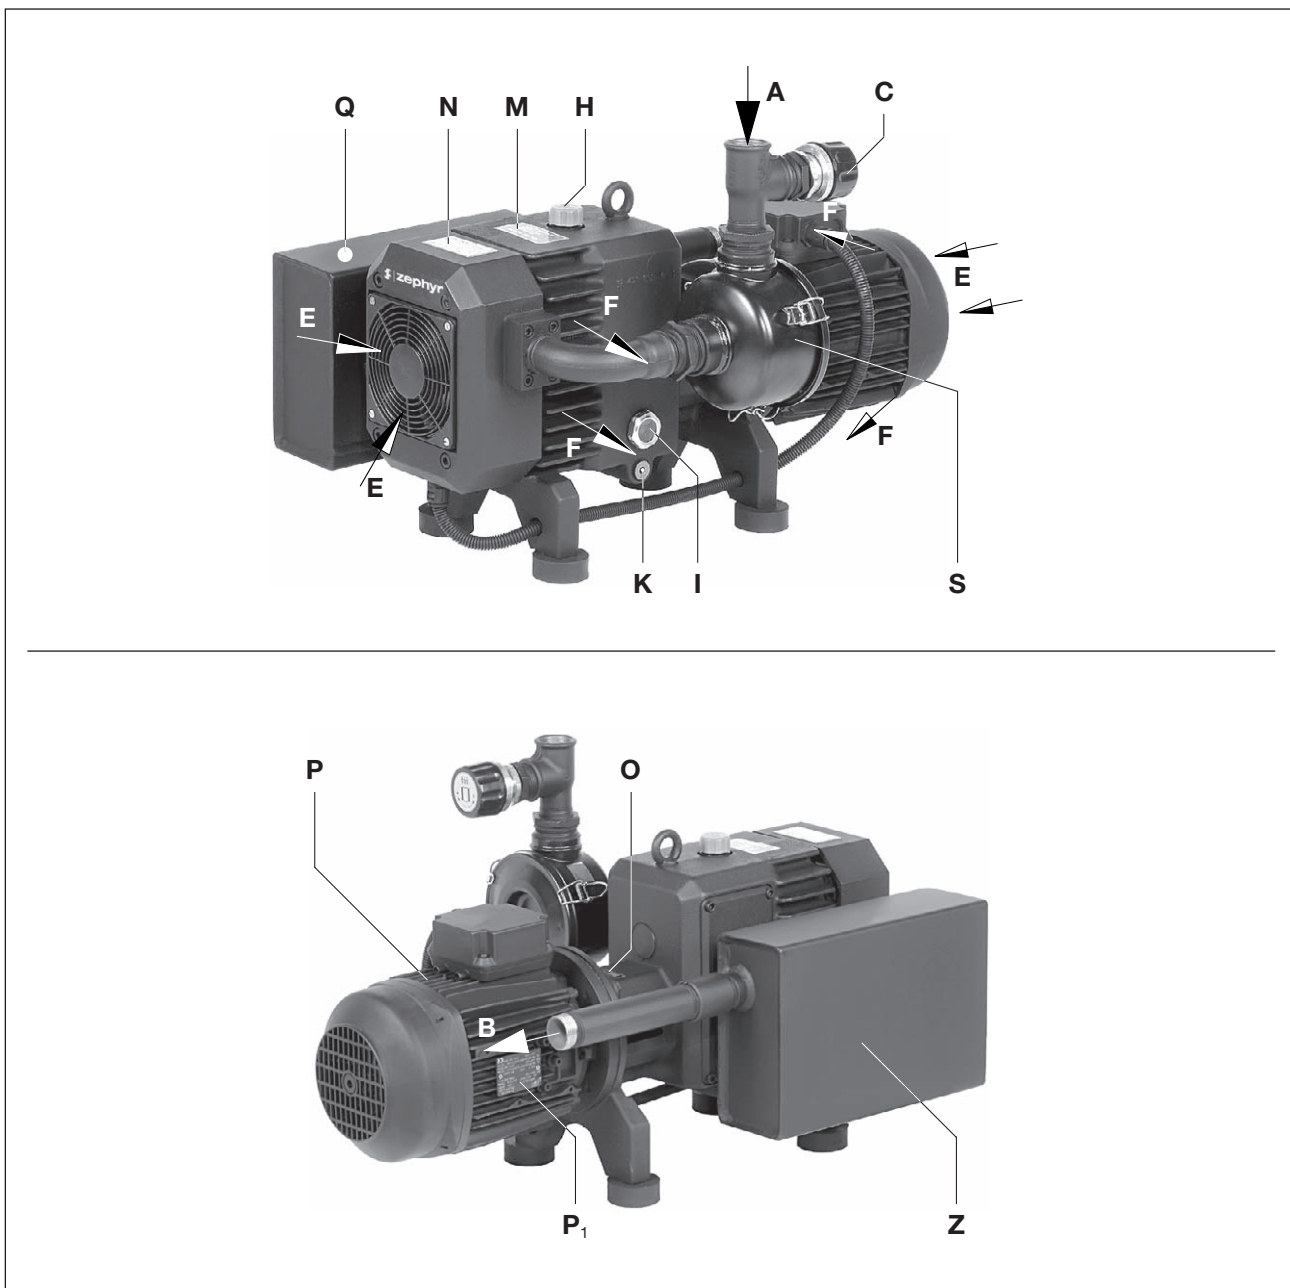
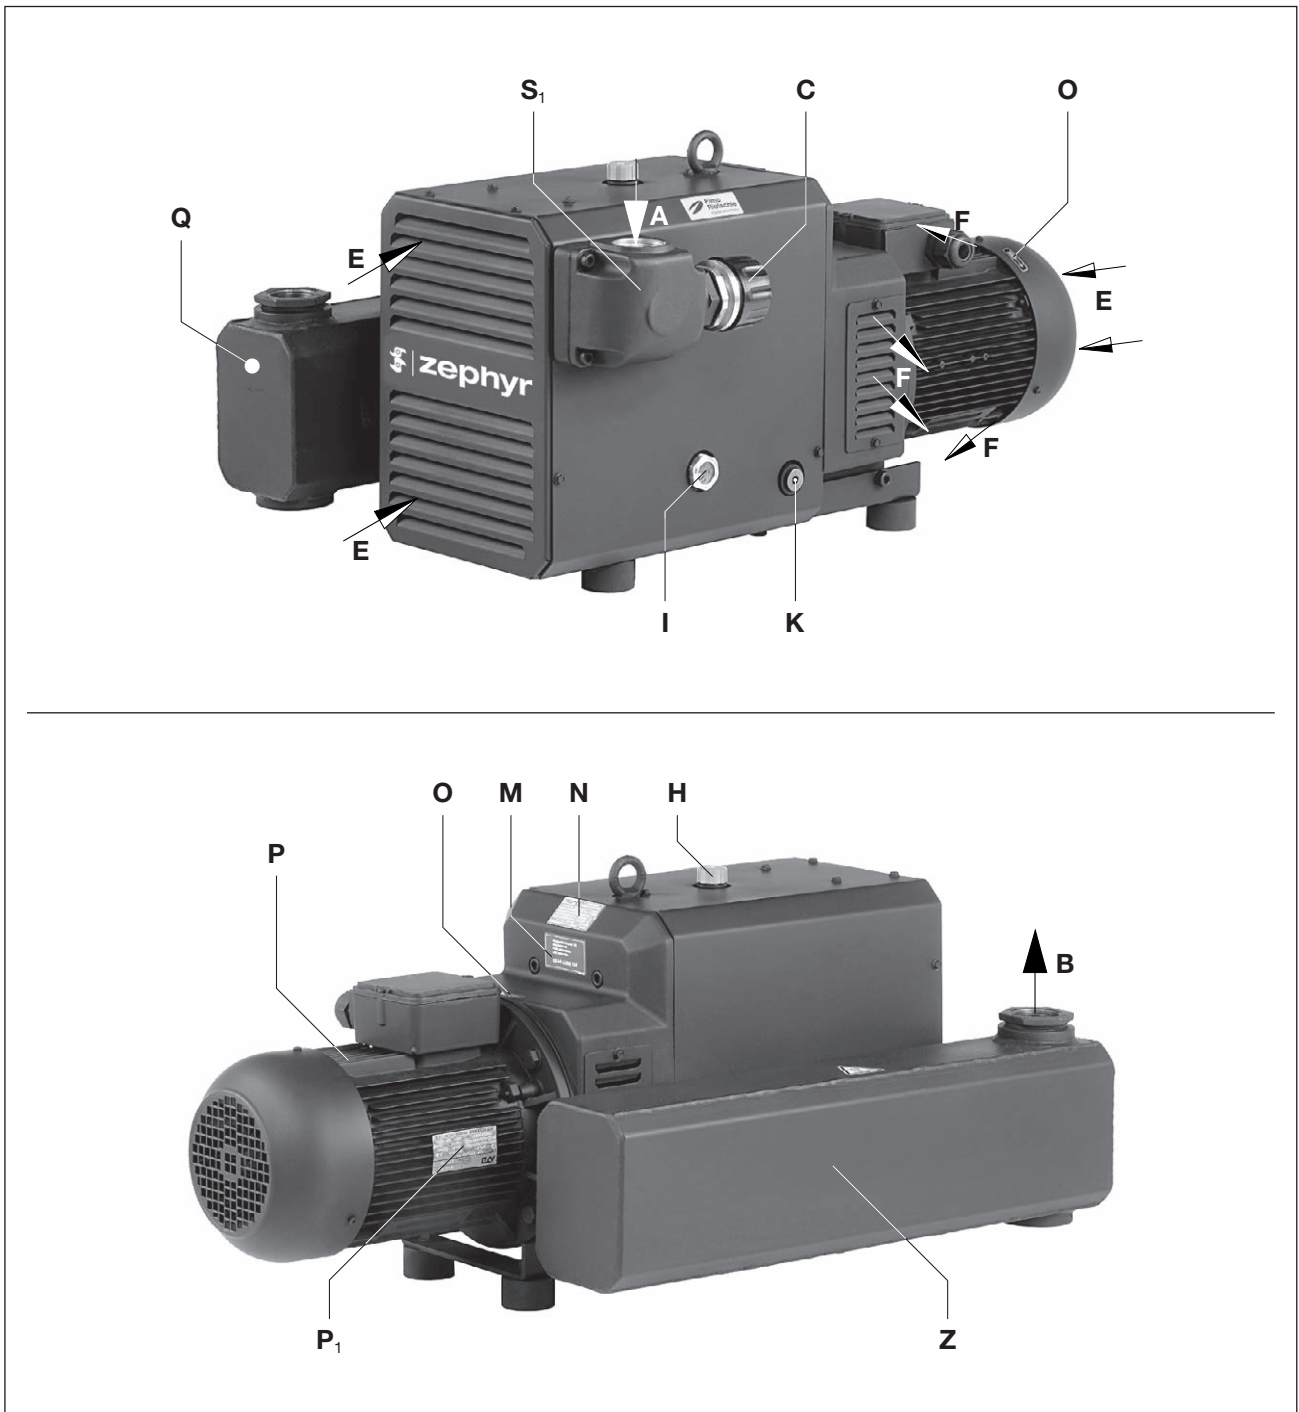

Fig. 2 Vacuum pump C-VLR 60
Fig. 3 Vacuum pump C-VLR 150
In order to dissipate compression heat, the cooling air is sucked through between the machine and the hood using drum fan that sucks in the fresh cooling air (Fig. 3/E) and discharges the heated air out of the cooling air outlet (Fig. 3/F). The ZEPHYR VLR is driven by standard flanged three phase motors via a coupling (with an elastomer component).
A vacuum regulating valve (Fig. 2/C) is used to set the vacuum to the required values.
The oil filling point (Fig. 2/H... 4/H), oil sight glasses (Fig. 2/l... 4/l) and oil outlets (Fig. 2/K... 4/K) must be easily accessible.
The cooling air inlets (Fig. 2/E... 4/E) and cooling air outlets (Fig. 2/F... 4/F) must be at least 30 cm from adjacent walls. Cooling air coming out must not be sucked in again.
For maintenance work there must be a minimum of 40 cm in front of the inlet filter (Fig. 2/S) and the inlet silencer (Fig. 3/S1, 4/S1)
- a) Vacuum connection at (Fig. 2/A... 4/A).
- b) The discharged air can be blown out through the exhaust silencer (ZSZ) at (Fig. 2/B... 4/B) or conducted away using a hose or a pipe.
The vacuum can be set by turning the control knob (Fig. 2/C... 4/C) as shown on the symbol fitted to the button.
- a) Fill the lubricating oil (for suitable types see "Maintenance") for the gear wheels and oil filling point (Fig. 3/H) up to the middle of the sight glasses (Fig. 3/I).
- a) The motor's electrical data is given on the data plate (Fig. 3/N) or on the motor data plate (Fig. 3/P1). The motors comply with DIN EN 60034 and are in protection class IP55 and insulation class F. The appropriate connection diagram is located in the motor's terminal box (not for the plug connection version). The motor data must be compared with the data of the existing mains network (current type, voltage, network frequency, permitted current value).